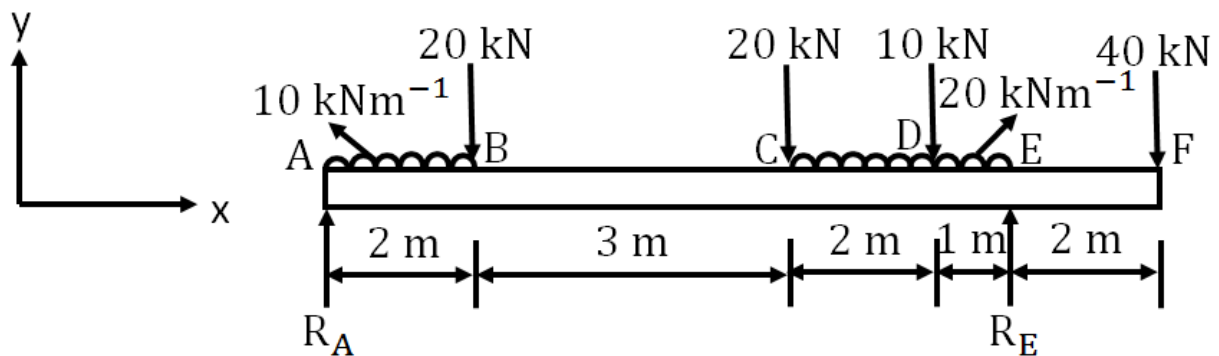

Fig. Q 1 (d)
- d) The beam shown in Fig. Q 1 (d) is loaded with a combination of concentrated and uniformly distributed loads. Suppose the point of inflection occurs between C and D, find its location from point C. (6 marks)